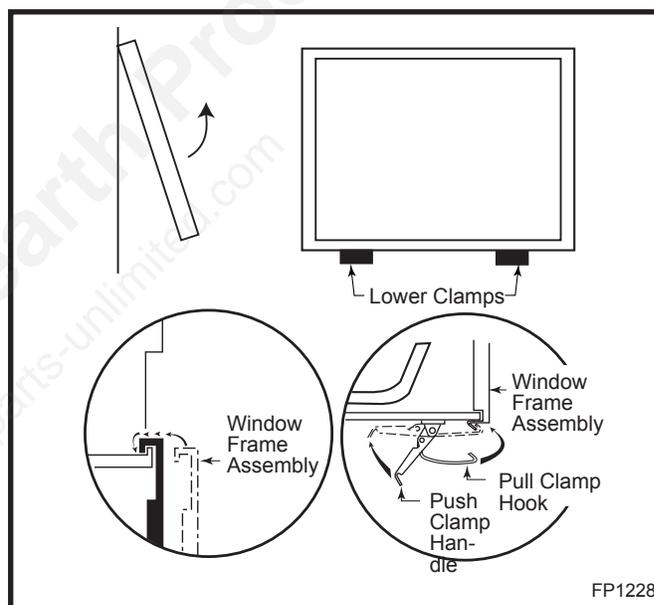

Fig. 37 Window frame assembly removal.
5. Release the two clamps along lower edge of the frame by pulling down on clamp handles. (Fig. 37)